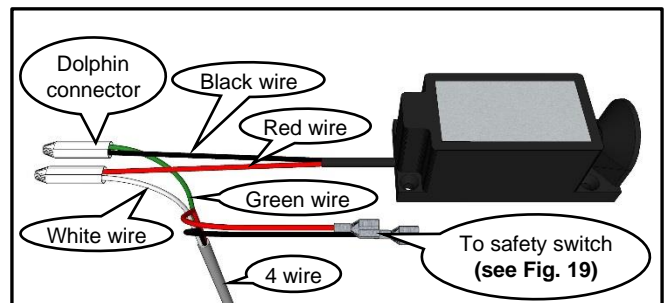

Figure 20
- 2** The black wire from the door lock connects to the green wire in the 4 wire safety circuit from junction box at opening. Use the provided dolphin connectors to crimp the wires together. (see Figure 20)
- 3** The red wire from the door lock connects to the white wire in the 4 wire safety circuit from junction box at opening. Use the provided dolphin connectors to crimp the wires together. (see Figure 20)